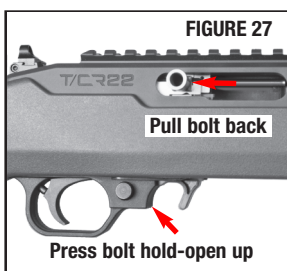

FIGURE 27
- If the bolt is not open, pull bolt handle fully to the rear and push up and back on the bolt hold-open lever (then allow the bolt to move slightly forward against the hold-open) to remove any round that was in the chamber and for inspection of the chamber (FIGURE 27).